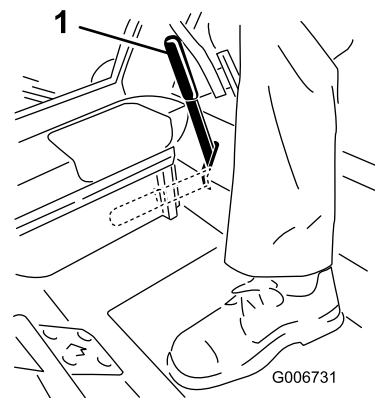

Figure 12
2. Pull up and back on the parking brake lever to set the parking brake (Figure 12). The parking brake lever should stay firmly in the engaged position.
Push forward and down on the parking brake lever to release the parking brake (Figure 12).